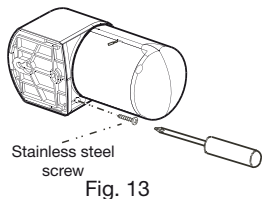

Fig. 13
1. Remove the screw that holds the bracket. Fig. 13